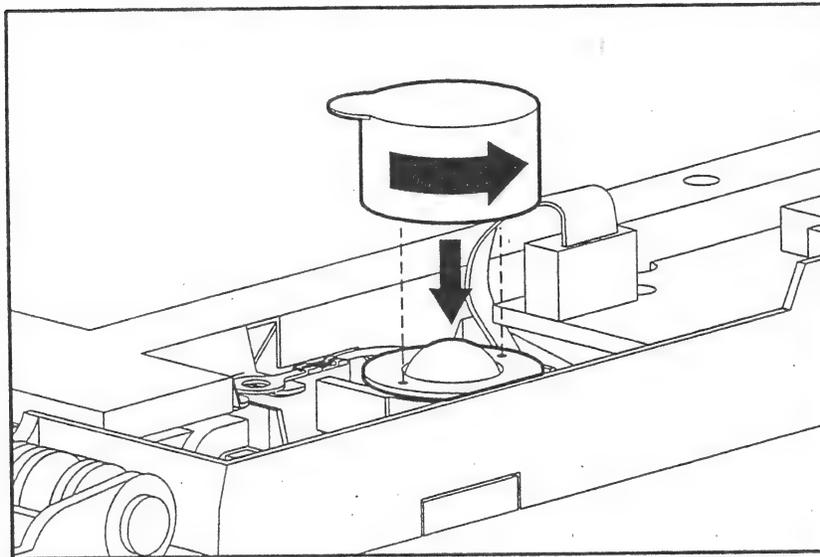

Figure 2-24. Removing the Trackball for Cleaning
3. Place the removal tool over the retaining ring, and turn it counter clockwise one quarter-inch (Figure 2-24). This loosens the retaining ring.